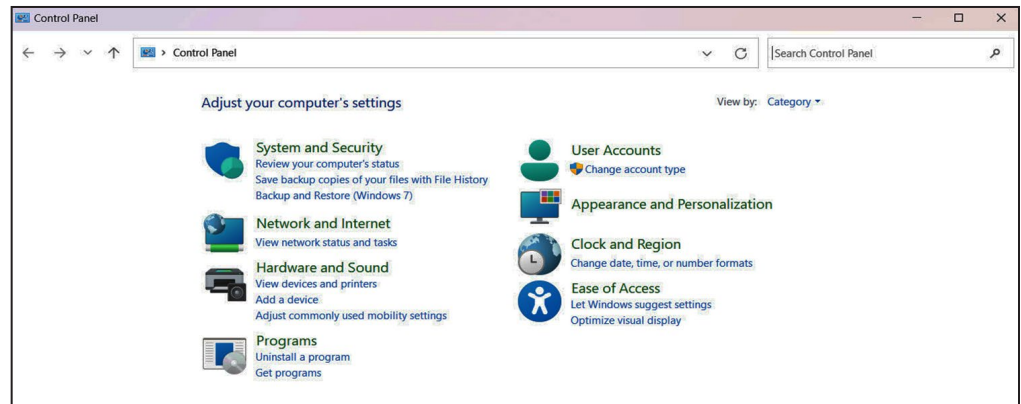

Figure 27. The Control Panel dialog box.
- STEP 3.** From the dialog box, select the **Programs>Uninstall A Program** option. See Figure 27.